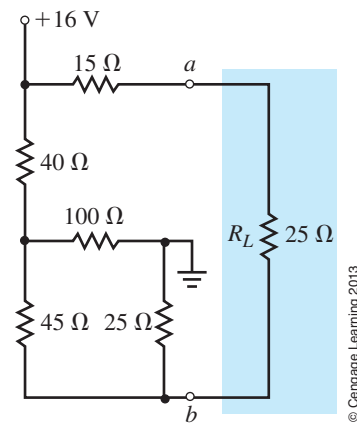

FIGURE 9-92
18. Refer to the circuit of Figure 9-92: